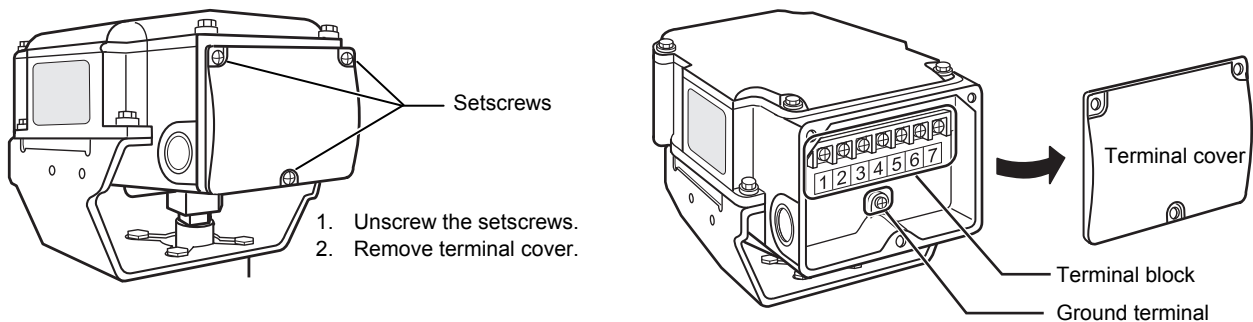

Figure 16. Terminal cover removal
- 2) Unscrew the 3 setscrews (M4 × 10) of the terminal cover and remove the terminal cover, as shown in Fig. 16.
To connect a device with over 100 V AC to the sub-DO, be sure to ground the actuator with 100 Ω or lower ground resistance. Refer to Fig. 16 for the location of each terminal.
- 1) Unscrew the setscrews and remove the terminal cover. See Fig. 16 for removing the terminal cover.